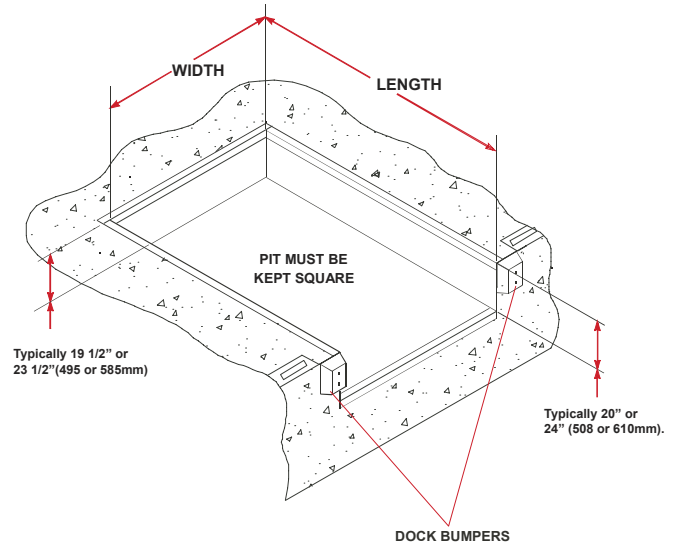

Figure 1 : Pit Layout - Typical (Four piece curb angle shown)
- Measure height of dock leveler front corners, bottom of frame to top of deck plate, typically 19-1/2" or 23-1/2" (495 or 595mm). Measure depth of pit at both front corners where front bottom corners of frame will be positioned. Locate and place suitable shims (not supplied) at both front corners to produce a depth to match frame height. See Figure 1.